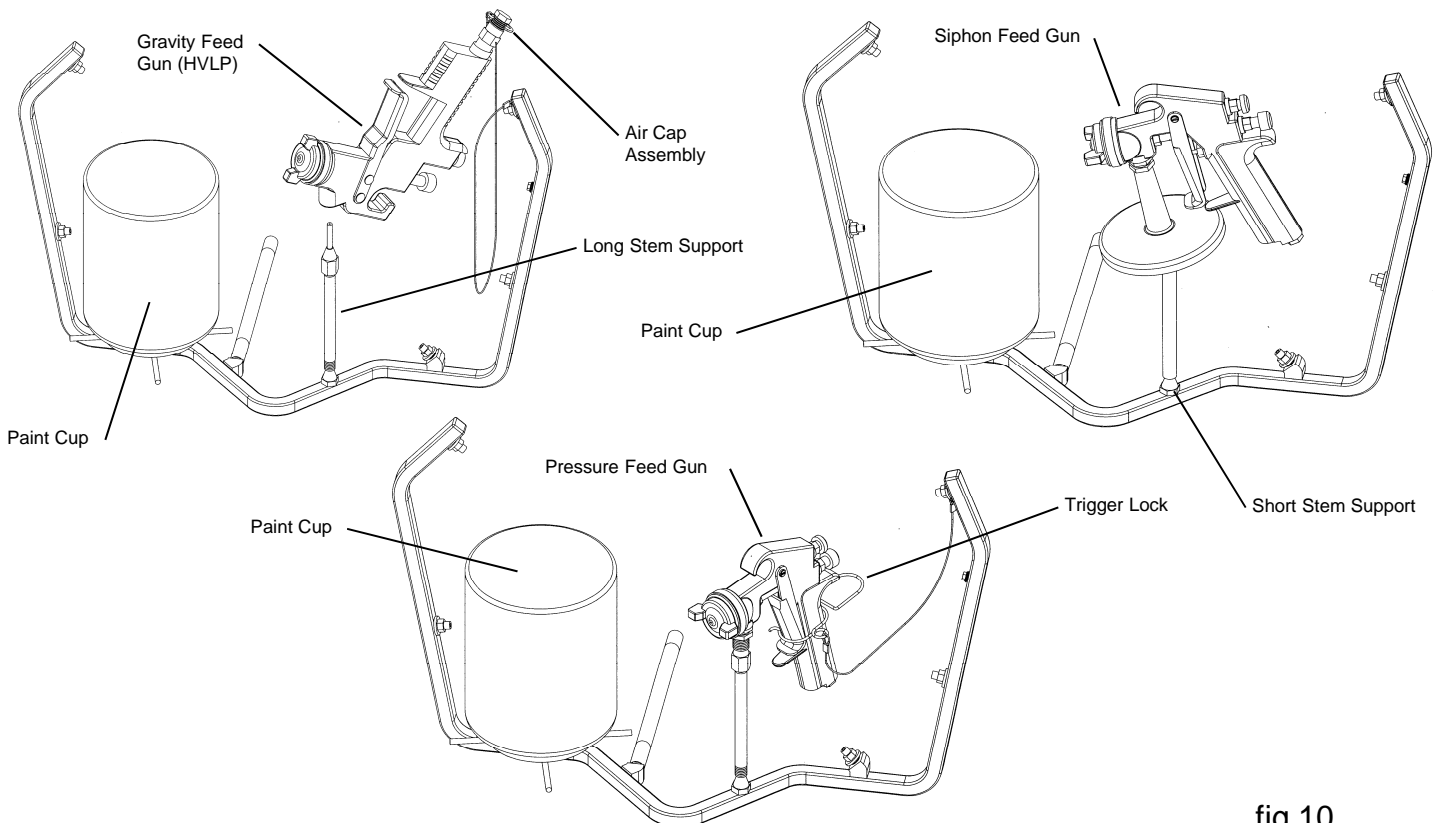

fig.10
- 4) Lock the gun trigger in the open position by placing the trigger lock around the gun handle and trigger (see fig.10).
- 2) Place equipment in the tank according to the diagrams shown in fig.10.